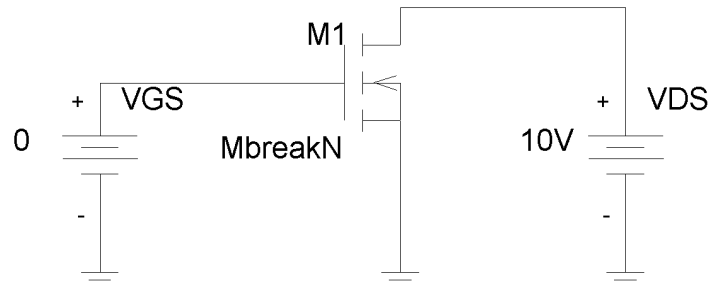

Figure 1. Circuit to draw the characteristic curves of drain.
1.1 First we generate the characteristic curves of drain (output curves) $I_{DS} = f(V_{DS})$ of an NMOS transistor. To do this, we have to start *Schematics* and edit the circuit shown in Figure 1.